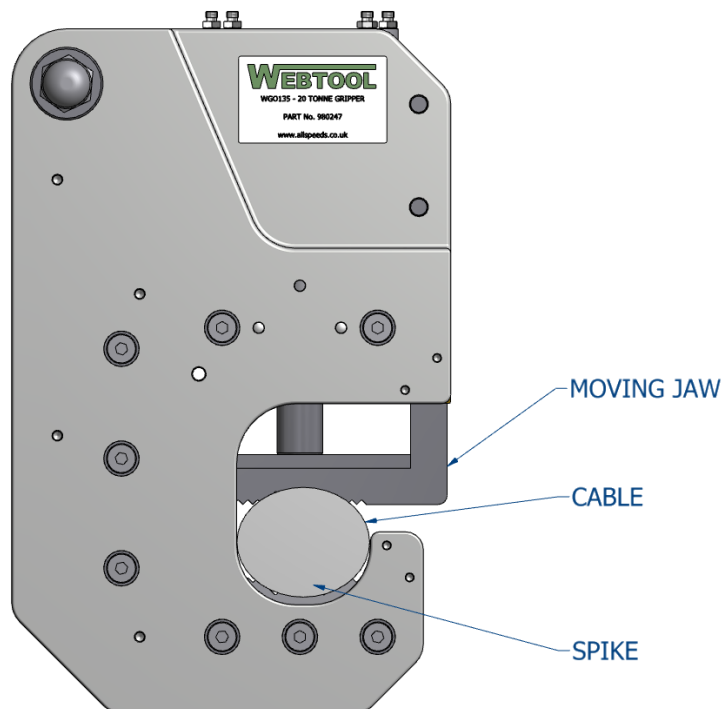

Figure 5 – Wire fully gripped –Moving jaw is no longer moving
4. Keep the cylinder feed pressurised until the moving jaw has fully gripped the wire and will go no further as shown in figure 5. **DO NOT release the pressure on the main cylinder at this time.**